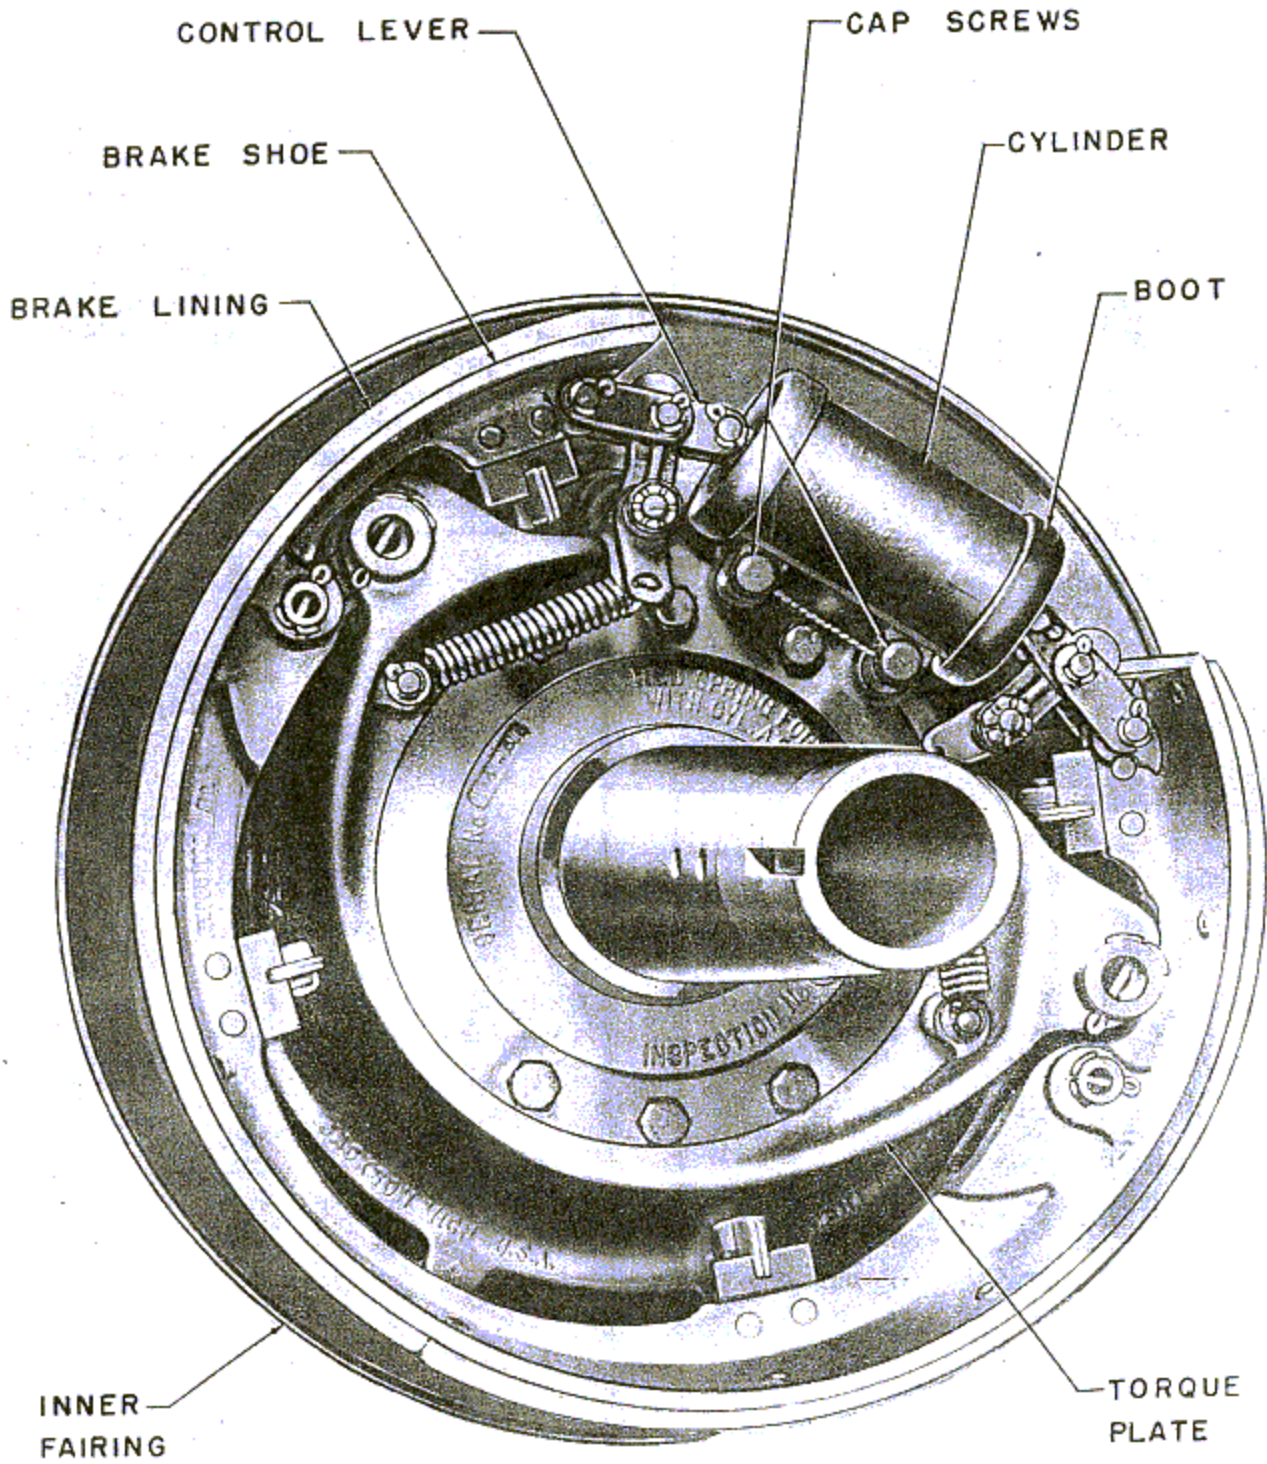

Figure 137—Hydraulic Brake
1. Pull wheel as outlined in section IV, paragraph 4. a. (5) (a), then remove the bleeder screw on the rear of the cylinder and drain the fluid from the hydraulic line and cylinder.
3. Pull the cotter pins and remove the bolts attaching the two levers, one at each end of the cylinder, to the two cylinder piston rods. (See figure 137.)